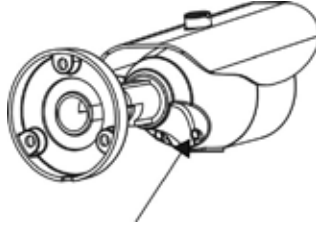

Figure 5-4
5. Adjust view angle and focal length by using an adjusting tool, as shown in Figure 5-4.